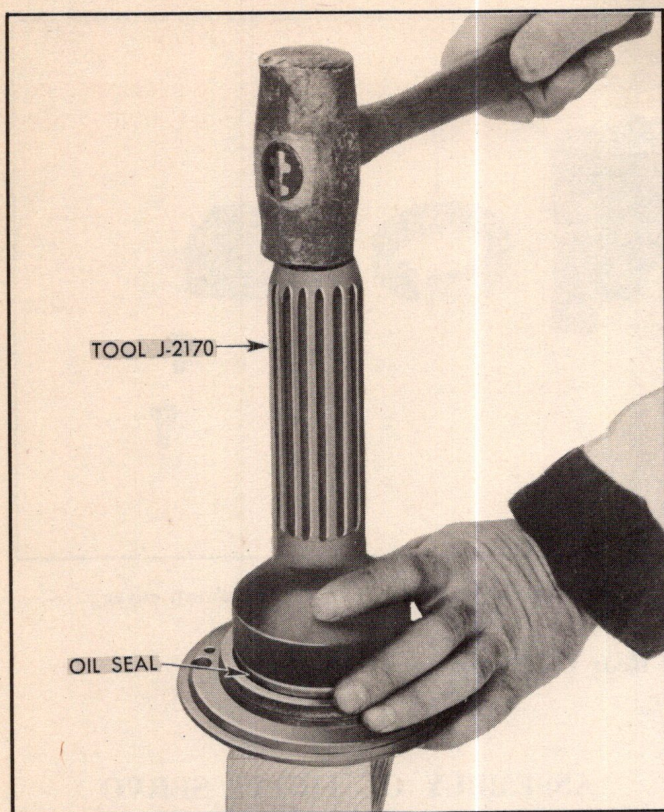

Fig. 275—Installing Front Cover Oil Seal
2. Install new seal in pump cover with step side up. Drive seal into place with tool J-2170 (Fig. 275).